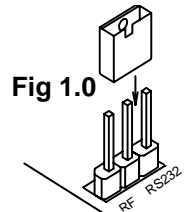

Fig 1.0
- Place JP2 in RS232 mode, see fig 1.0.